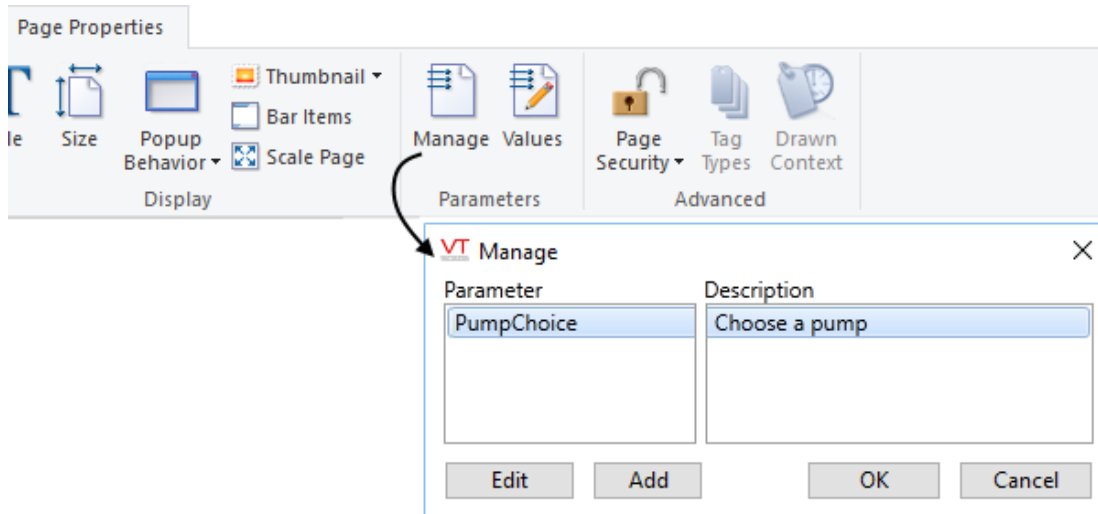
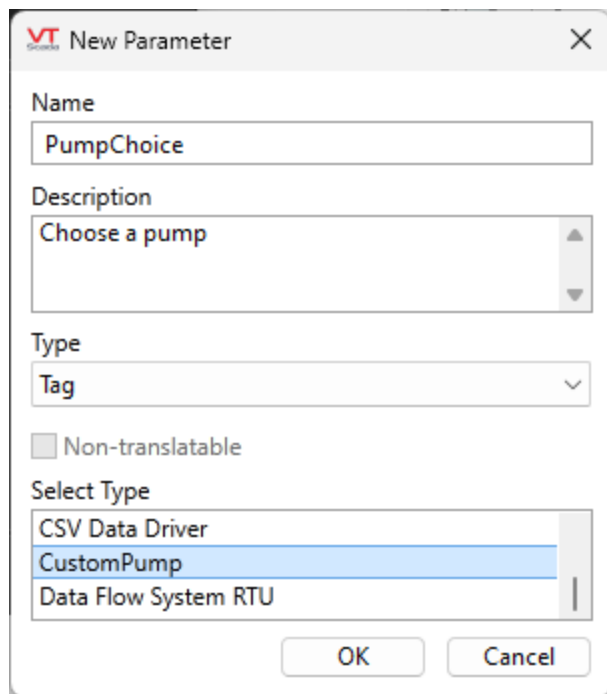

Figure 6-2 Manage parameters, button and dialog from the Page Properties ribbon
Figure 6-3 Adding a tag parameter to a page.
3. Open the Manage (parameters) dialog and create a parameter as shown in Figure 6-2 and Figure 6-3